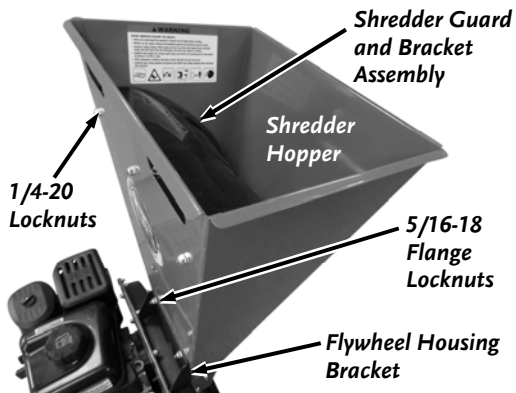

Figure 11
7. Install the Shredder Hopper Guard and Bracket Assembly with three 1/4-20 Flange Locknuts using a 7/16" Wrench (**Figure 11**).